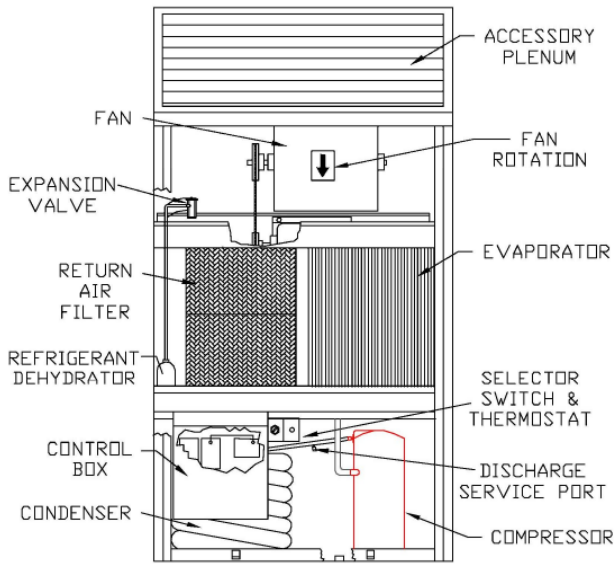

FIGURE 1 - BASE UNIT INTERIOR DETAILS (TYPICAL UNIT SHOWN)
- Route regulating valve capillary with its flare nut to the fitting on refrigerant discharge line (Figure. 1), using